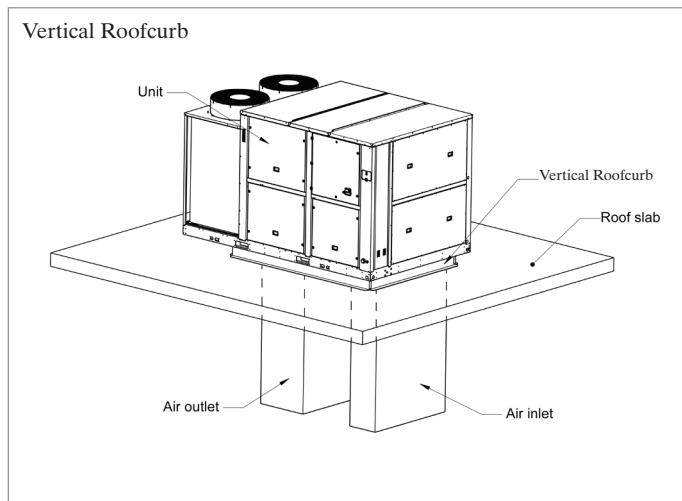

Fig. 21 - Vertical roofcurb
6. Assemble the unit on top of the roofcurb accessory ensuring that the unit supply and return air coincide with the accessory inlets. The unit and the accessory assembly should be as shown in Fig. 21.